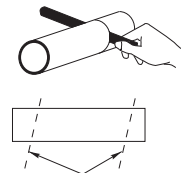

Fig. 11
- Measure the thickness of the wall from the inside edge to the outside edge and cut PVC pipe at a slight angle 1/4" (6 mm) shorter than the thickness of the wall. (Fig. 11)